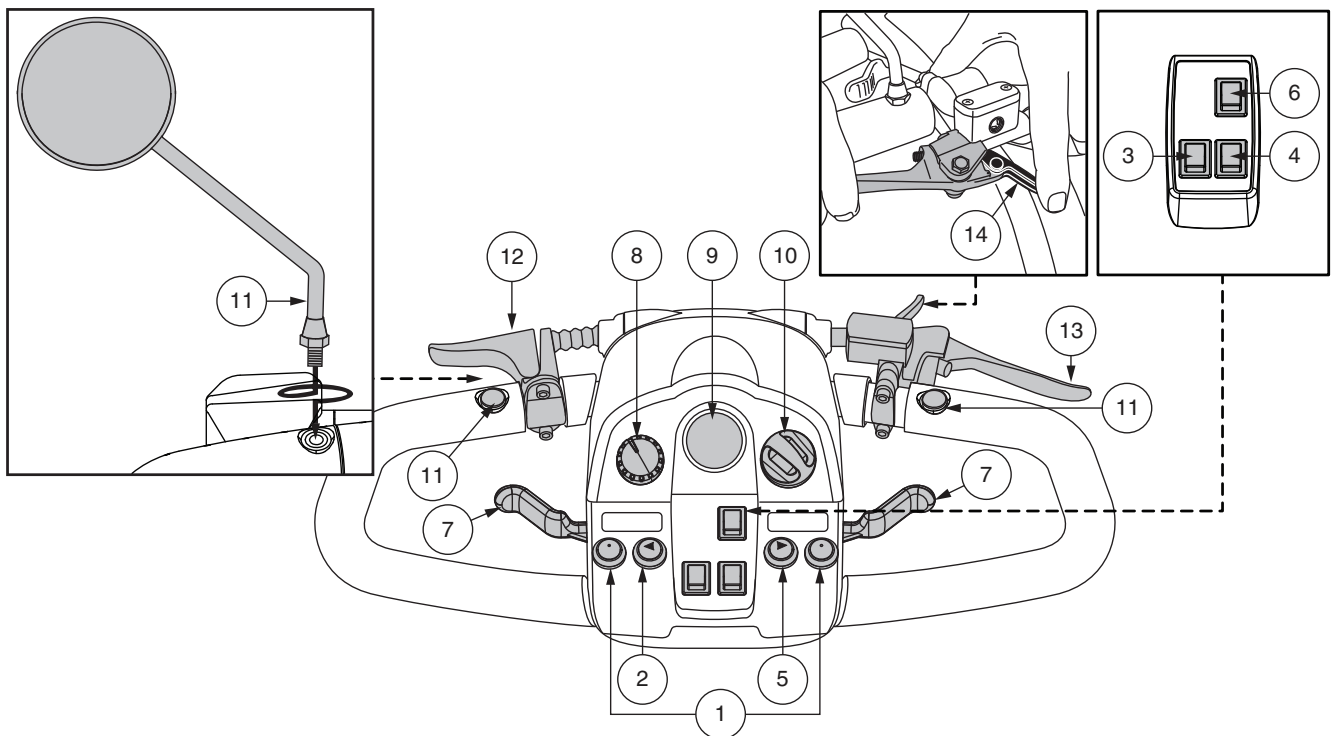

Figure 1. Tiller Console Components - Style A
The tiller console houses all of the controls needed to drive your scooter, including the speed adjustment dial, key switch, battery condition meter, status LED, horn buttons, turn signal buttons, handbrake lever, tiller adjustment lever, and the throttle control lever. Please note that some of the features listed in this section are optional items and may not appear on your scooter. See figure 1.
Your scooter is equipped with a handbrake lever which is located on the tiller handle. See figure 1. This lever provides you with additional stopping power. The handbrake is manual and operates independently of your scooter's regenerative braking system which is engaged during operation of the scooter by releasing the throttle control lever.
**NOTE:** If your handbrake is equipped with a lock function as shown in figure 1, you can activate the brake lock function by squeezing the handbrake lever and rotating or pushing the lock lever to engage the lock. To release the handbrake lock, fully squeeze the handbrake lever. See figure 1.